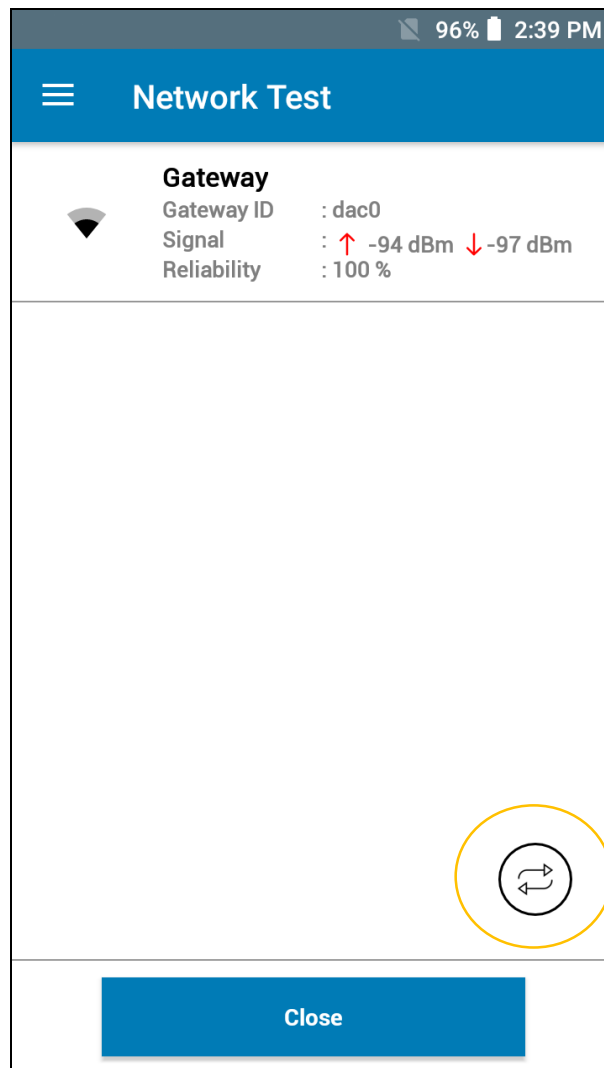

Figure 3-46
10. After receiving the Network Test information, network test can be preformed by pressing the 'Refresh' button located at the lower right corner to check the Signal Strength (for uploading data) as highlighted in the figure 3-46. Once the signal strength received is around -90 to -100 dBm, the Node can be installed at that location.
NOTE: The refresh button (encircled in blue in figure 3-46) needs to be pressed every few minutes to update the Signal Strength.